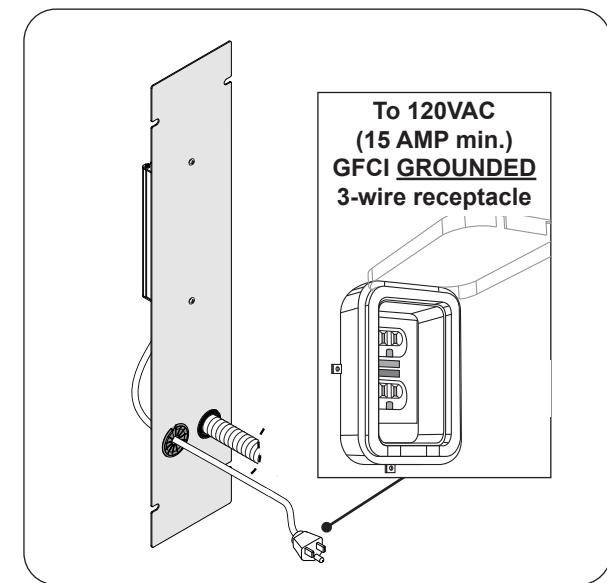

Fig. 21-3 Route and connect power cord
- Install the included bushing onto the power cord and slide the bushing up against the access plate knock-out hole and snap into place. See Fig. 21-3.
Connect the cord coming from the rear access plate to a **120VAC (15 AMP minimum) GFCI GROUNDED 3-wire receptacle**. The GFCI receptacle must be a WEATHER-PROOF IN-USE COVERED RECEPTACLE. See Fig. 21-3.